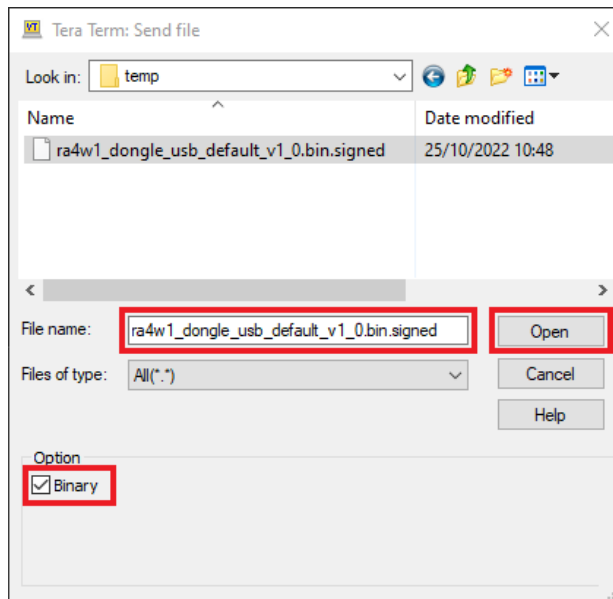

Figure 13. Selection of Software Image
5. Select **File > Send file...** from the menu. On the opened window (Figure 13) select **Binary**, navigate to the location of the software image file, select it, and click on the **Open** button. Now the terminal emulator program sends the whole file. LEDs D3 and D4 blink in antiphase and a pop-up window displays the transfer progress, which takes approximately 10 seconds.